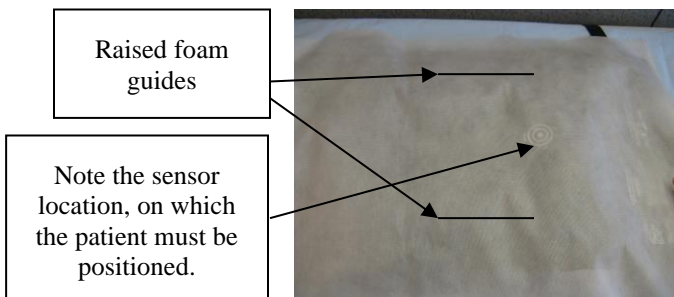
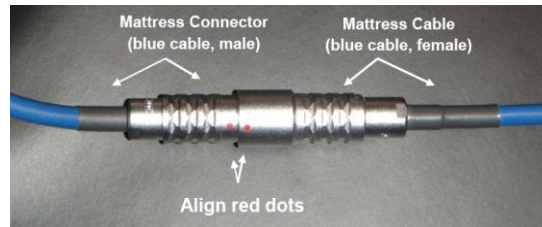

Figure 8
Figure 9
- 6. When placing the patient on the pad, it is critical that the patient is on top of the warming panel on the sensor. Use the two raised, completely compressible, contoured foam guides running parallel in the center of the mattress to ensure placement on the sensor. See figure 8. These guides, along with any patient positioning devices create a channel for maximum patient contact. See figure 9.